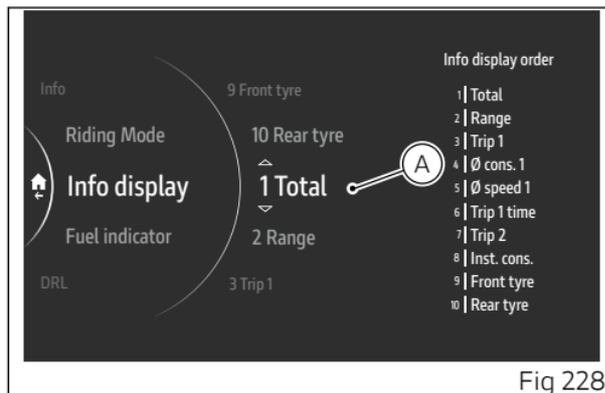

Fig 228
- Two arrows (A, Fig 228), are displayed above and below the position number indicating that it can be changed from 1 to 10 (in this example “3”) using the corresponding joystick positions ▲ ▼.